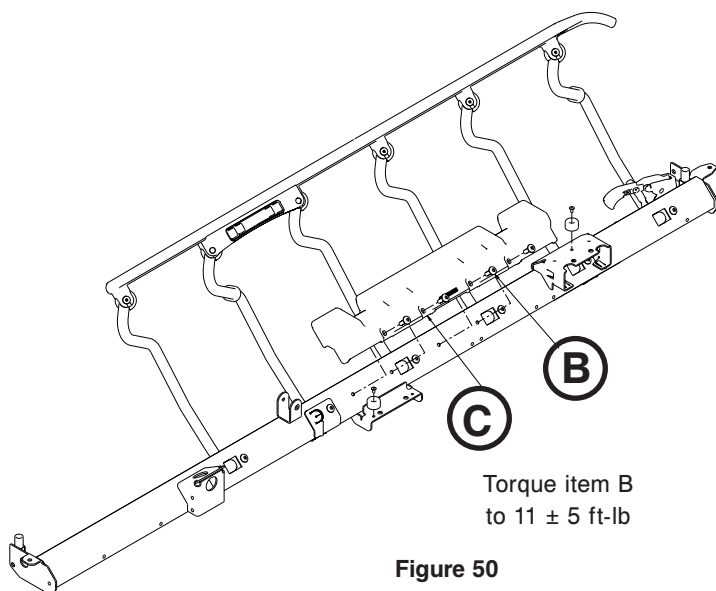

Figure 50
9. Using a T40 Torx driver, remove the four truss head machine screws (B) that secure the mattress support (C) to the litter and set aside (Figure 50).